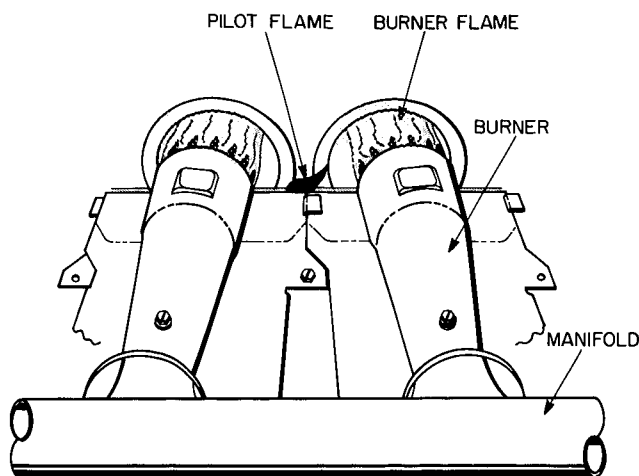

Fig. 7 — Proper Pilot and Burner Flames
2. Main burners should light 25 to 75 seconds after pilot. If main burners do not light within prescribed time period, adjust pilot flame, allow pilot to cool for 5 minutes, and repeat time check (Fig. 7).
- b. Turn adjusting screw either counterclockwise (out) to decrease input rate or clockwise to increase rate. When adjusting input rate, do NOT change manifold pressure more than 0.3 in. wg. Make any major adjustments by changing main burner orifices (Fig. 7).
3. Look through sight glass in burner enclosure and check burner and pilot flame. The main burner flame should be clear blue, almost transparent. The pilot flame should be well defined. See Fig. 7.